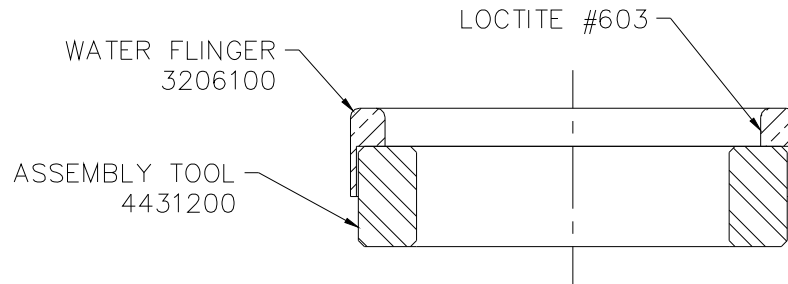

Fig 1a
- Place **3206100** water flinger over 4431200 assembly tool as shown in Fig 1a. Apply Loctite #603 to inside flinger surface.